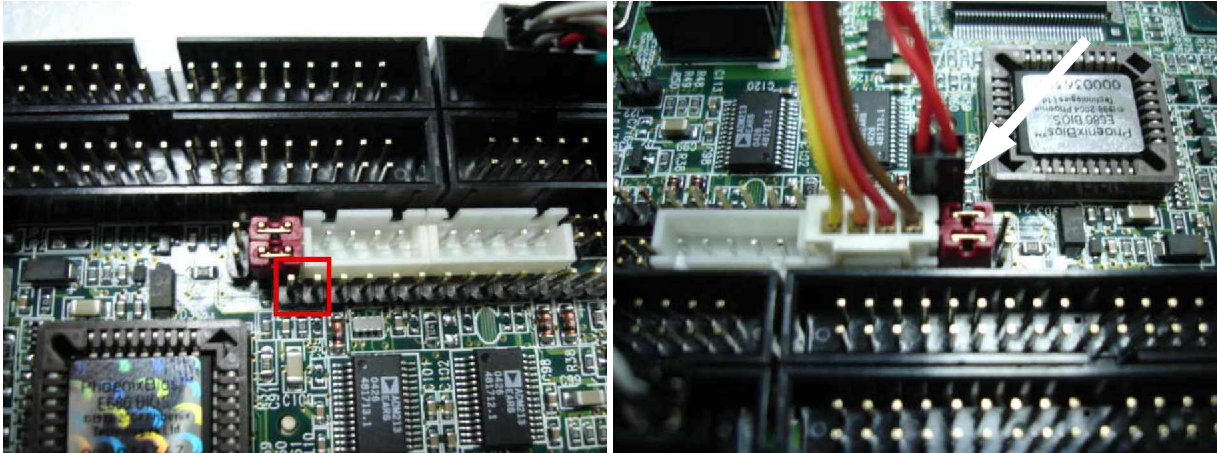

Figure 5-5
Step 5: Connect TOGGLE SWITCH with J14 connector on 3307559VG2A series (Figure 5-5), which is used to power on ATX Power Supply. Generally, the TOGGLE SWITCH is located on the chassis of front panel.